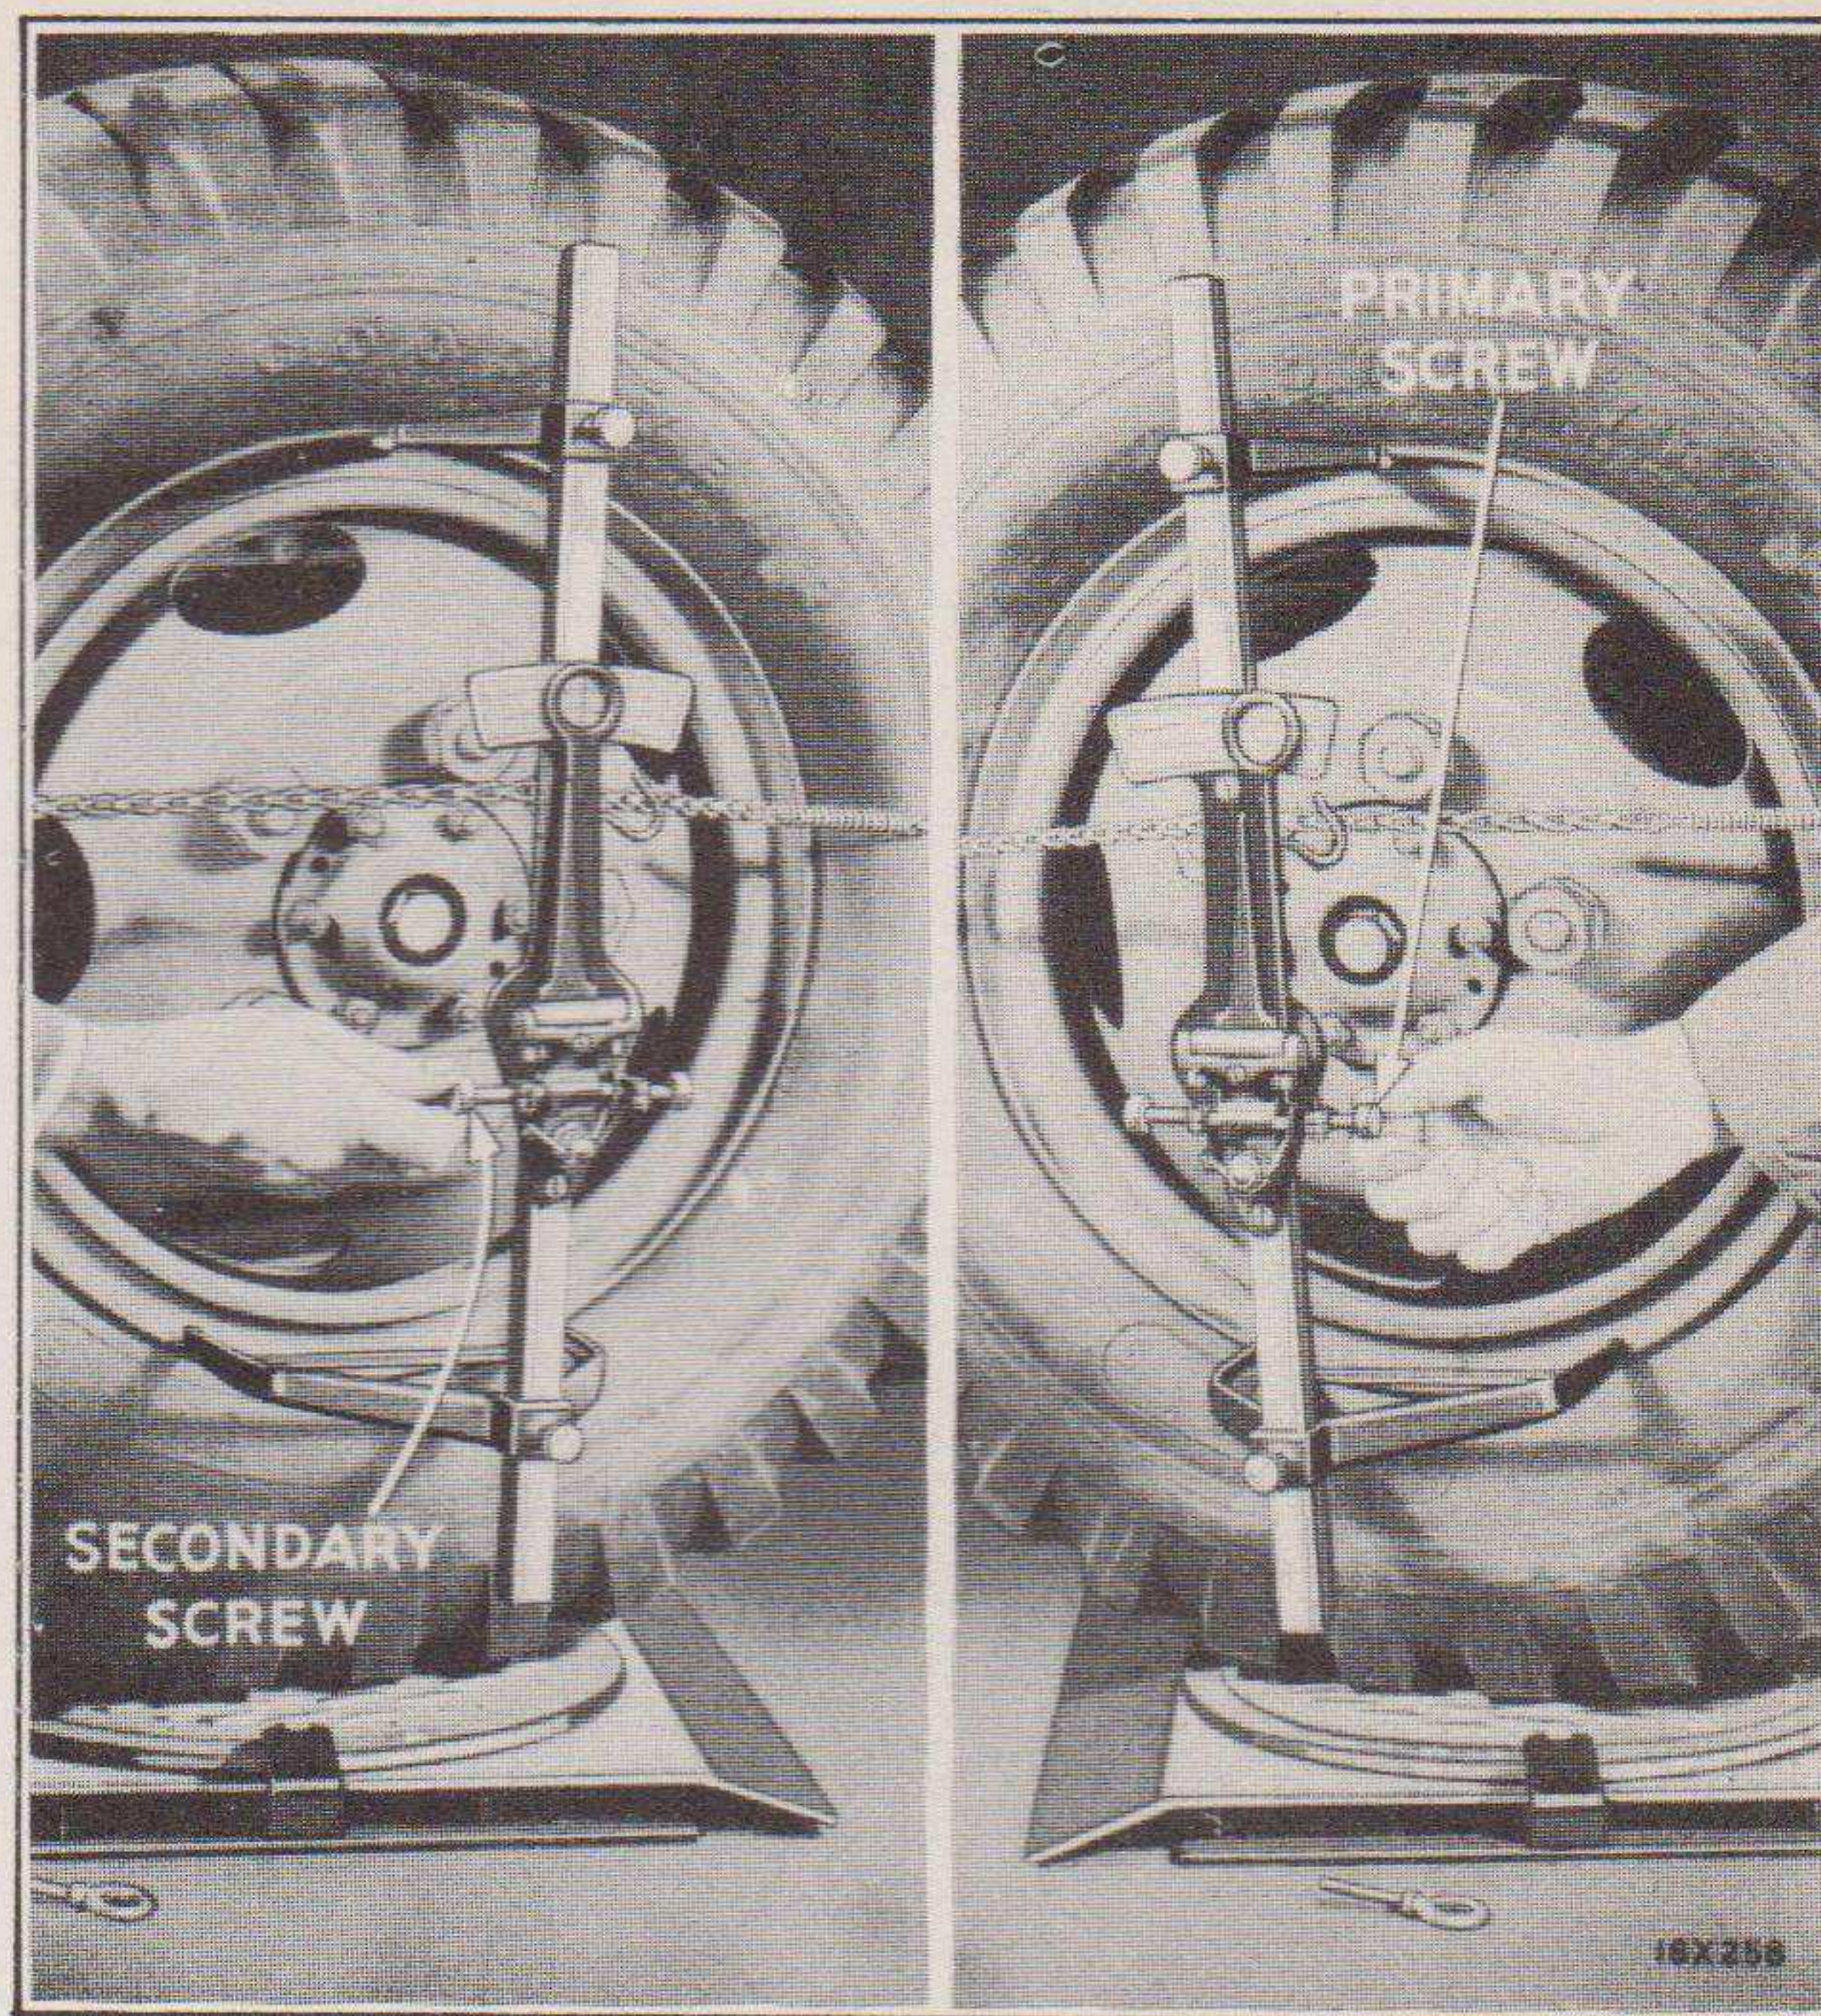

Fig. 41—Checking King Pin Angle—Gauge on Right Wheel (Tool DD-428) (Turntables—Tool DD-435)
- (c) Adjust the secondary screw which controls the short pointer (Fig. 41), until the bubble is centered between the two lines on the spirit level. Do not disturb this gauge setting or release the brakes.
- (e) Adjust the primary screw (Fig. 41), which controls the hair line, until the bubble centers in the spirit level. The reading on the 40 degree scale on the gauge will be the king pin angle for the right wheel.
- (g) Adjust secondary screw, shown in Fig. 41, which controls short pointer as previously explained in item (c).
- (i) Adjust primary screw (Fig. 41), which controls hair line and take king pin angle reading as explained in item (e).